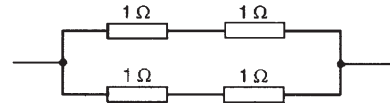

Figure 5.17
- (b) **Two in series, in parallel with another two in series** (see Fig. 5.17), since $1\ \Omega$ and $1\ \Omega$ in series gives $2\ \Omega$, and $2\ \Omega$ in parallel with $2\ \Omega$ gives